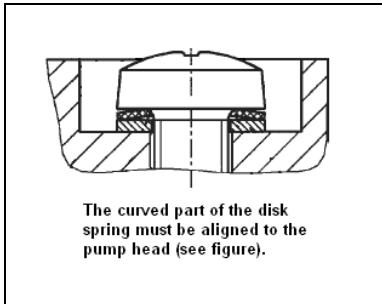

Fig. 27: Aligning the disk spring
1. Manually remove the four diaphragms (Fig. 27/8) by turning them in the counterclockwise direction.
3. Manually screw the new diaphragms (Fig. 27/8) into the connecting rods' threads and tighten to hand tightness.